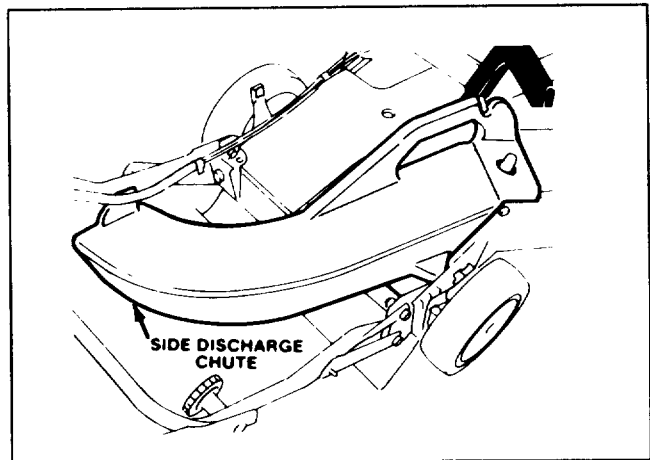

Figure 26
1. **Side Discharge Kit, Model No. 59168** — Install in seconds. Rear mounted in place of the grass bag. Disperses clippings while trimming on both sides (Fig. 26).